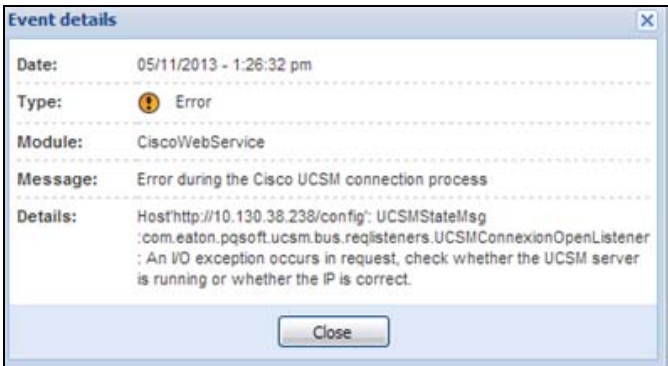

Figure 221. UCS Manager Not Found
- 3. IPM can't find a UCSM on the IP provided (see Figure 221).